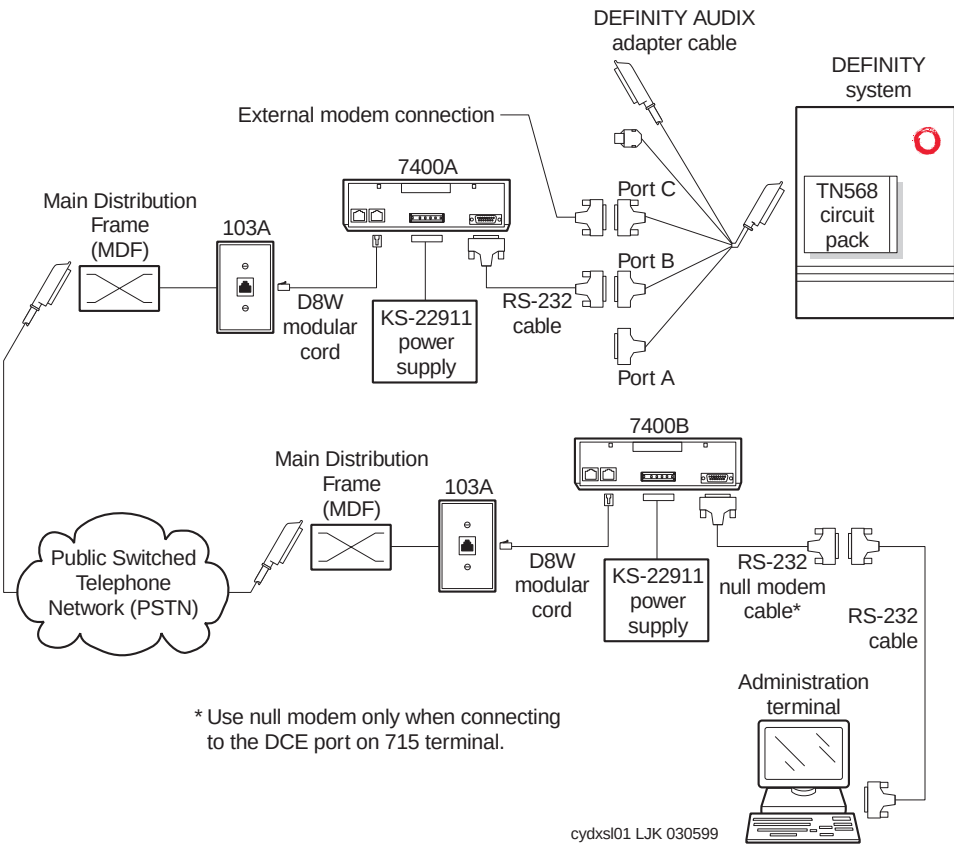

Figure 2-10. Installing an Additional Administration Terminal to the DEFINITY AUDIX system via 7400 Data Modules
Refer to Figure 2-10 when performing this task.
- a. Connect the equipment as shown in Figure 2-10.
- c. Check the dip switches inside the front panel. They are set to the OFF position when the terminal is shipped. If you are not connecting a telephone with this data module, reset the first dip switch (1) to the ON position. If you are connecting a telephone, leave all dip switches OFF.
- d. Connect the equipment as shown in Figure 2-10